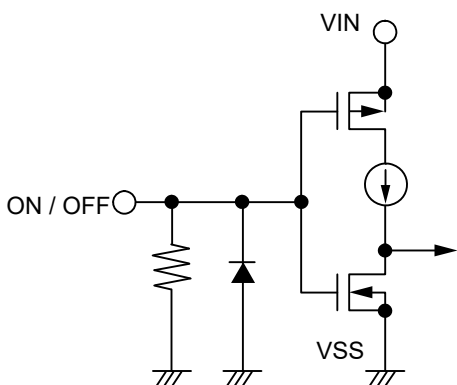

Figure 15 S-19251 Series A / C Type
Note that the current consumption increases when a voltage of 0.25 V to $V_{IN} - 0.3$ V is applied to the ON / OFF pin. The ON / OFF pin is configured as shown in **Figure 15** and **Figure 16**.
*2. Note that the IC's current consumption increases as much as current flows into the pull-down resistor when the ON / OFF pin is connected to the VIN pin and the S-19251 Series A / C type is operating (refer to **Figure 15**).